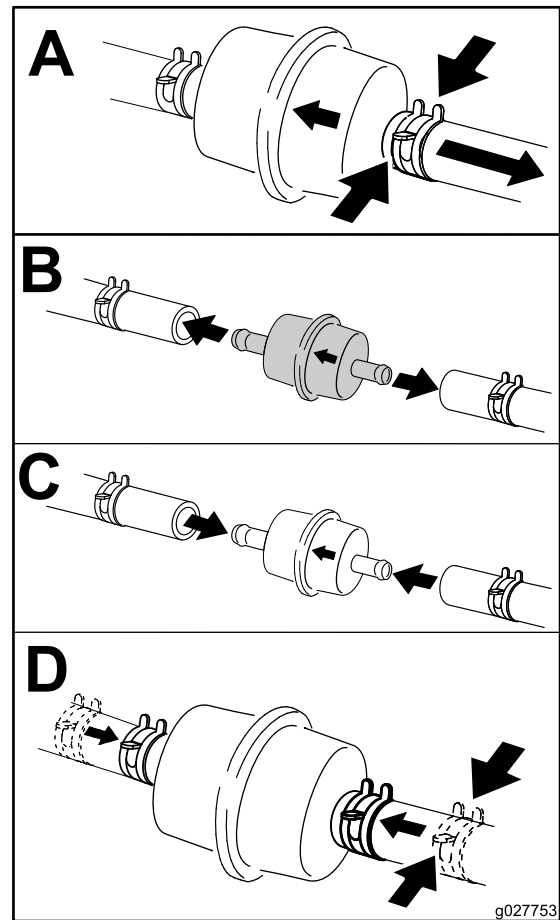

Figure 52
5. Replace the fuel filter (Figure 52).